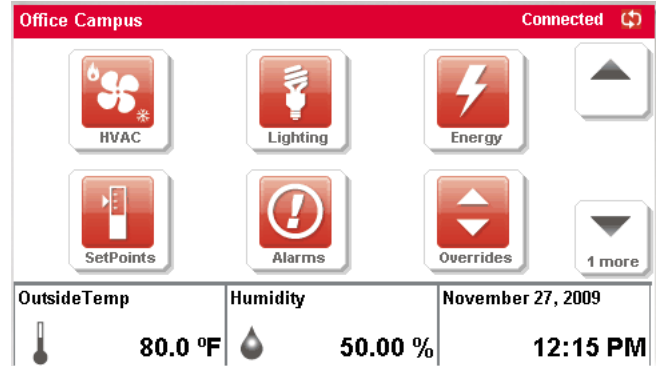

Fig. 40. Home Page.
To illustrate how Reveal screens are constructed, Let's start by examining a typical Home Page screen as shown in Fig. 40.
The screen shown in Fig. 40 consists of one (1) screen background element, six (6) button elements, and three (3) data field elements. Therefore the screen in Fig. 40 consumes ten (10) total elements for this one user screen, in the Reveal's internal memory.